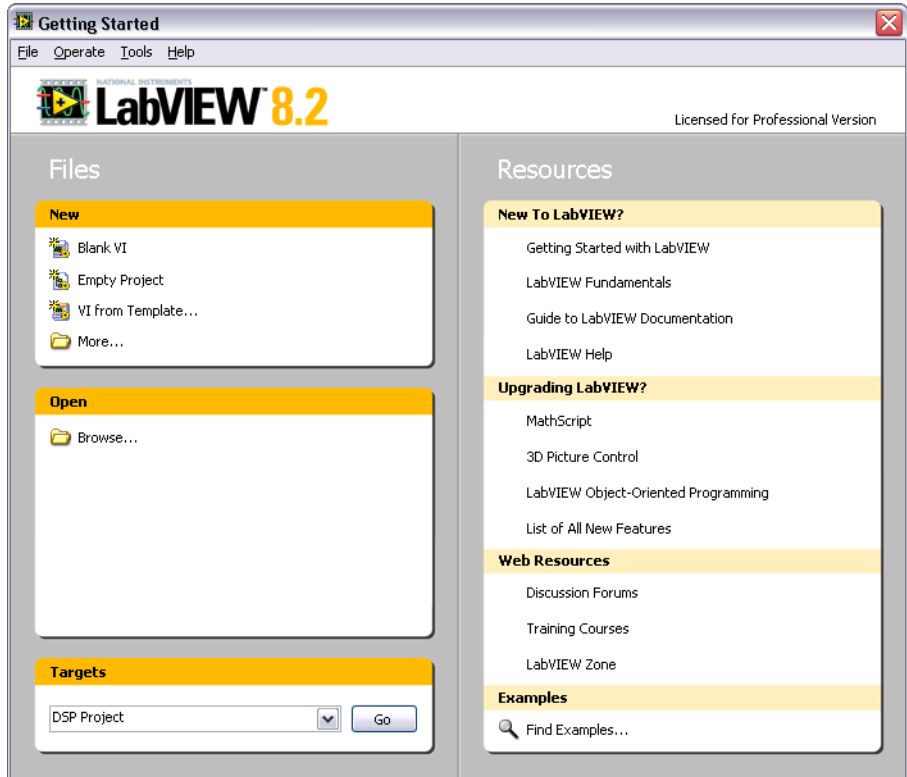

Figure 1. Getting Started Window
2. In the **Getting Started** window, shown in Figure 1, select **File»Open Project** to open the **Select the Project to Open** dialog box.